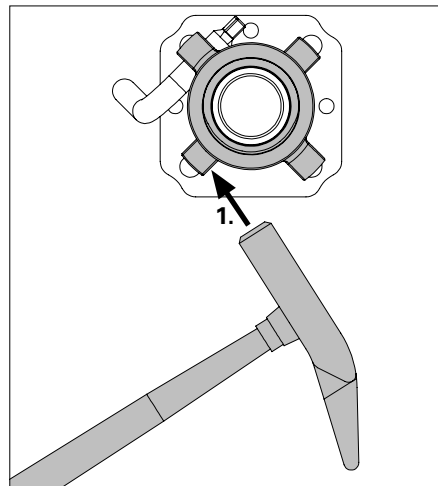

Fig. A2.02
- Hammer impact cam. (Fig. A2.02/A2.02a)